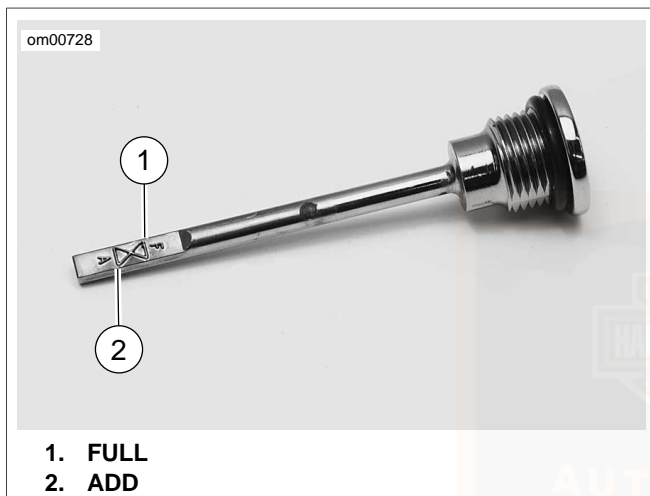

Figure 37. Transmission Filler Plug/Dipstick Lubricant Level
1. See Figure 37. Remove the transmission filler plug/dipstick.